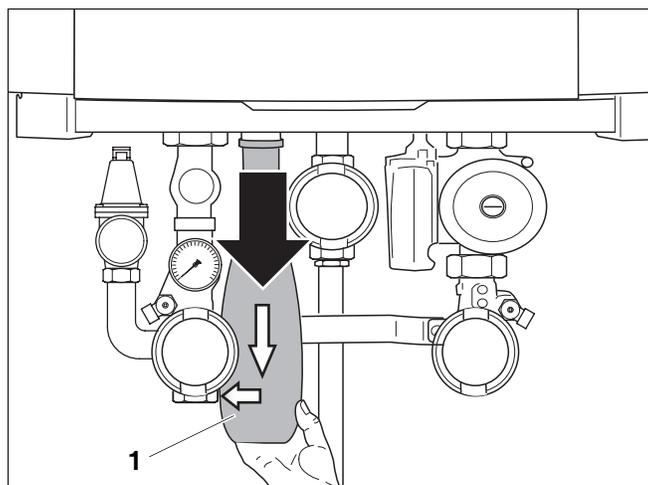

Fig. 90 Disconnecting the condensate trap
- pos. 1: Condensate trap
- pos. 2: Rubber sleeve
- pos. 3: Condensate trap hose
- Disconnect the condensate trap from the coupling and remove it (fig. 90, pos. 1).